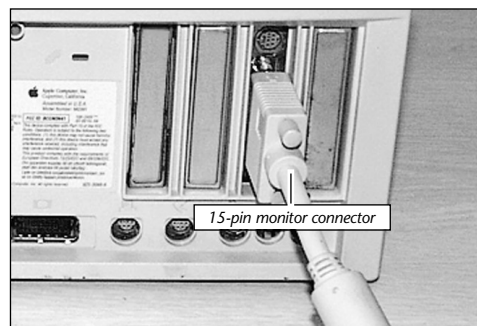

Figure 22: Reattach 15-pin monitor connector
20. **IMPORTANT!** – Before replacing the cover onto your computer, attach your monitor's video cable to the AV or HPV card 15-pin monitor connector (**Figure 22**). Secure the cable by tightening the thumbscrews on the cable's connector. Connecting the cable anchors the card in place while replacing the cover.